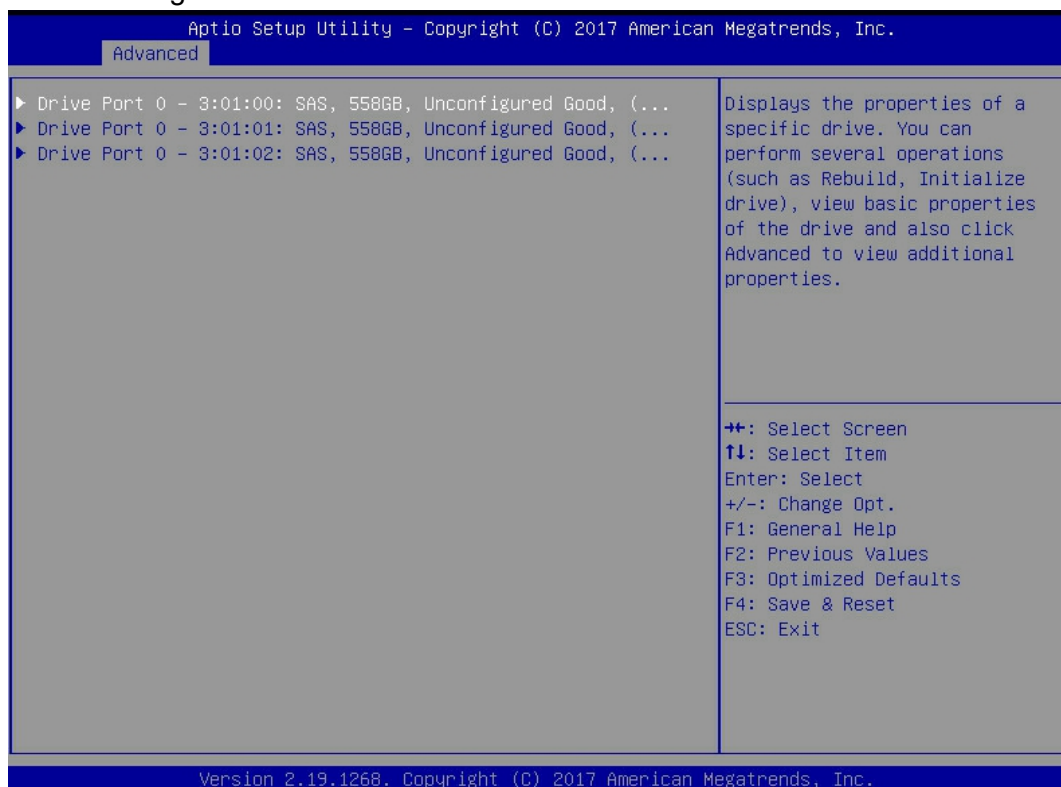

Figure 6-56
b) Enter the interface shown in figure 6-56, select the disk to be located and press enter.
✧ Figure 6-56 selecting the disk to be located